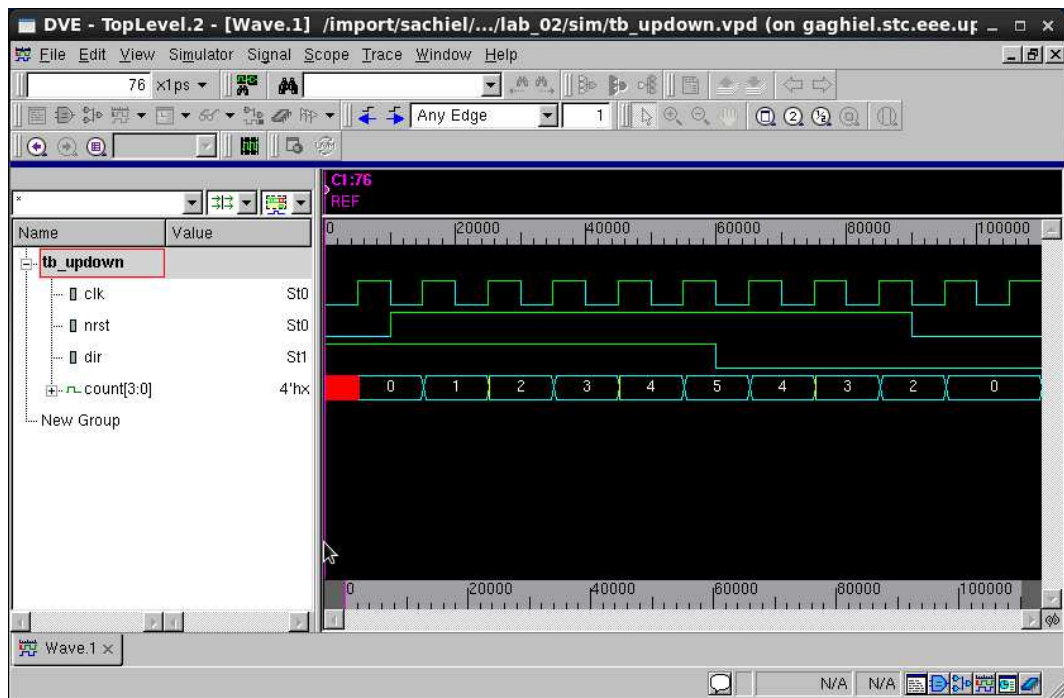

Figure 5: Testbench waveform
5. Select all of the signals in the tb_updown module and display them in the waveform viewer. You should have a window similar to the one shown in figure 5. Show this simulation waveform to your instructor.